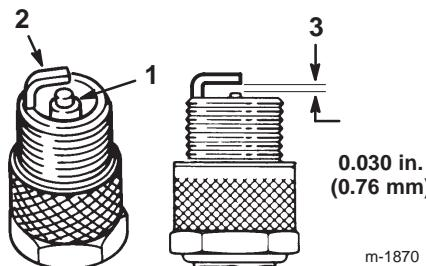

Figure 20
- Look at the center of the spark plug (Fig. 20). If you see light brown or gray on the insulator, the engine is operating properly. A black coating on the insulator usually means the air cleaner is dirty.
- Check the gap between the center and side electrodes (Fig. 20). Bend the side electrode (Fig. 20) if the gap is not correct.